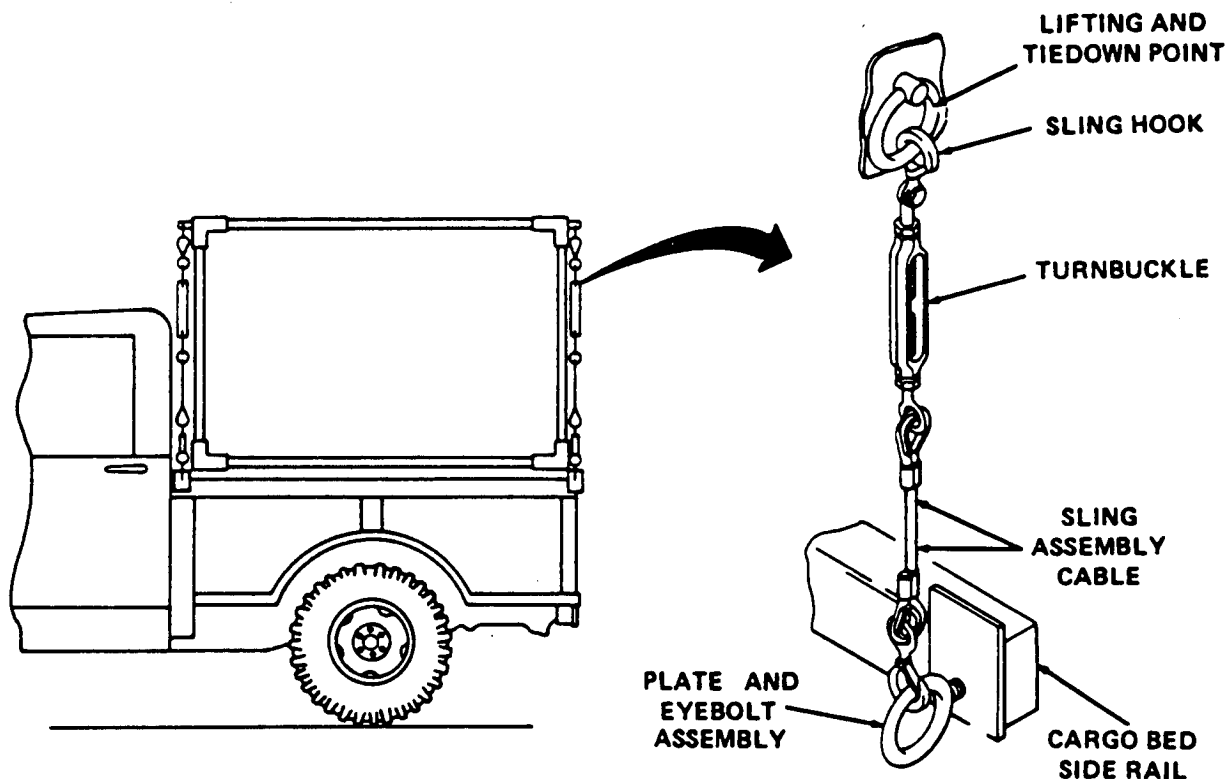

Figure 3-2. Securing Shelter on Truck.
- (6) Remove lifting ring from lifting hook and separate lifting ring from sling hooks. Remove sling hooks from lifting eyes and remove ropes from rear towing eyes.
c. Securing Shelter on 1-1/4-Ton (M561) Truck. (Figure 3-2)
- (1) Install plate and eye bolt assemblies on cargo bed siderails of truck as described in TM 9-2320-242.
- (2) Hook ends of four sling assemblies to tiedown eyes at each top corner of shelter, using hooks at furthest end of cables from turnbuckles.